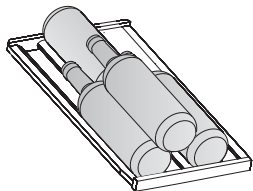
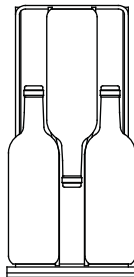

Fig A1
Fig A2
**Wine Compartment (Right):** It will be necessary to position the bottles alternately on the upper six shelves. This will allow for the storage of four (4) 750ml bottles on the top shelf (Fig. A) and three (3) bottles per rack on each of the four shelves (Fig. A1) and five (5) bottles on the bottom (Fig. A2) for a total storage capacity of 21 wine bottles.